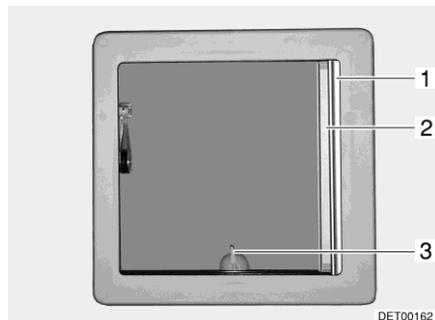
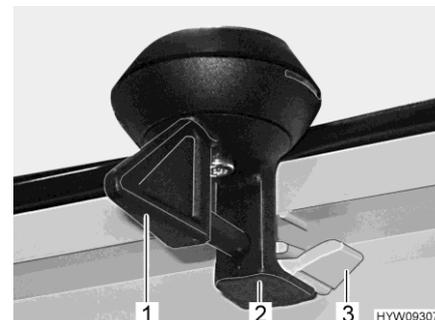

Fig. 48 Hinged skylight
Fig. 49 Lock (hinged skylight)
- Turn the lever (Fig. 48,3 or Fig. 49,1) one quarter turn.
- Turn the lever one quarter turn. The lock (Fig. 49,2) must slide into the bottom catch (Fig. 49,3).
- Pull out Roman shade (Fig. 48,1) and release in the required position. The Roman shade will stay in that position.
- Pull insect screen (Fig. 48,2) out until it engages with the latch on the opposite side.